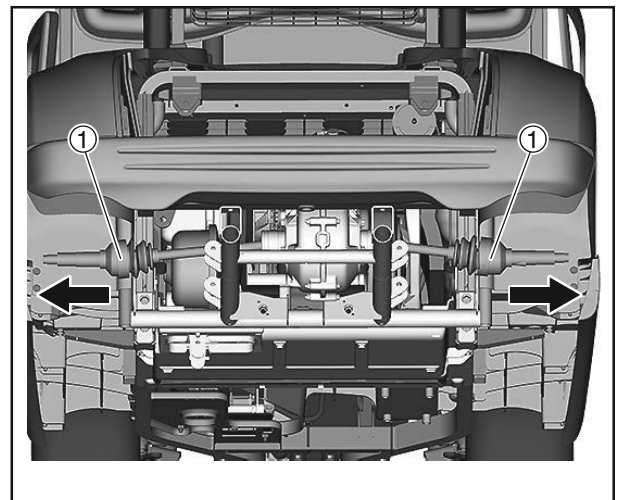

Figure 6-65
4. Pull out the drive shaft (Figure 6-65, (1)).